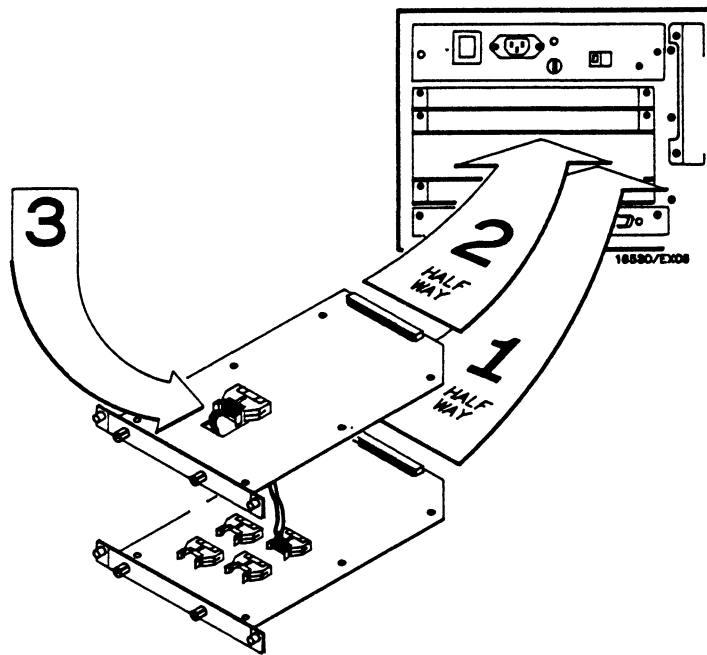

Figure 6-16. Installation Summary
- k. Plug in other end of cable to connector on acquisition card. See figure 6-16.